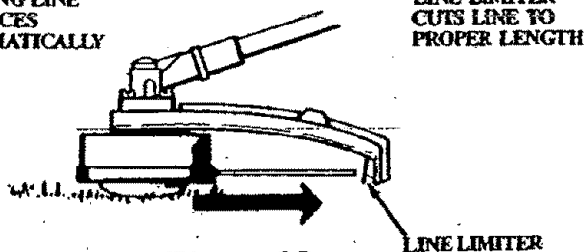

Figure 13
- Always keep the shield in place when the tool is being operated. Figure 13.